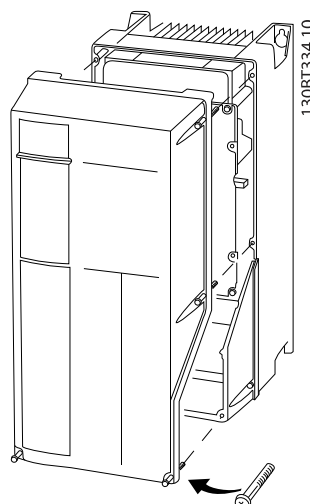

Figure 2.15 Control Wiring Access for A4, A5, B1, B2, C1 and C2 enclosures
- Or remove front cover by loosening attaching screws. See *Figure 2.15*.